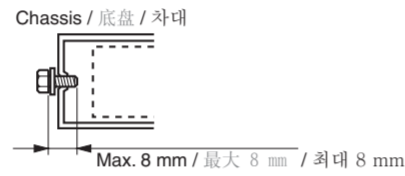

Figure 3 / 图 3 / 그림 3
- 4. Use the enclosed screws for installation. Using other screws can cause damage. (Figure 3)
- 4. 请使用附带的螺丝进行安装, 使用其他螺丝可能引起故障。(图3)